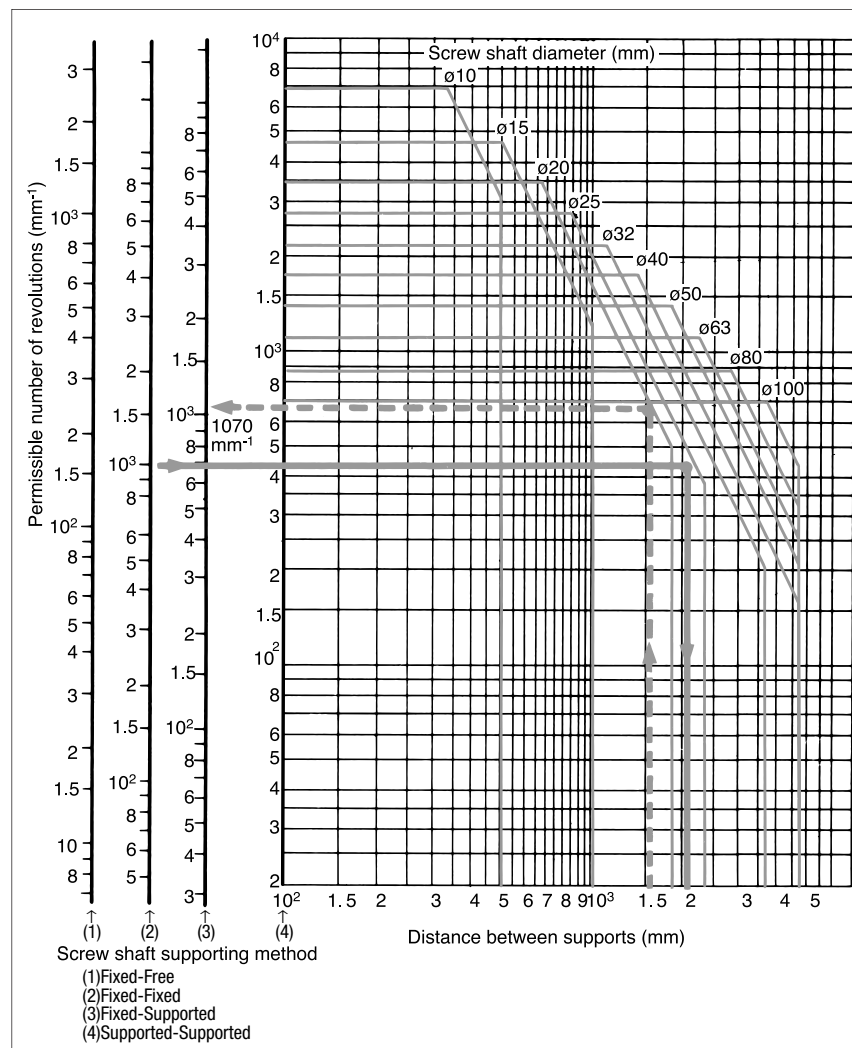

Figure 8 Diagram of permissible number of revolutions
A diagram for selecting the optimum shaft diameter corresponding to the number of revolutions is shown in Figure 8.
1. The vertical thick line in Figure 8 shows that the distance between supports is 1500 mm. Find out an intersecting point with the oblique line representing the critical speed of the shaft with a diameter of 20 mm.
1. The vertical dotted line in Figure 8 shows that the distance between supports is 2000 mm. Find out an intersecting point with the line of the permissible number of revolutions “1000 min^{-1} ” on the scale of “Fixed-Fixed”.